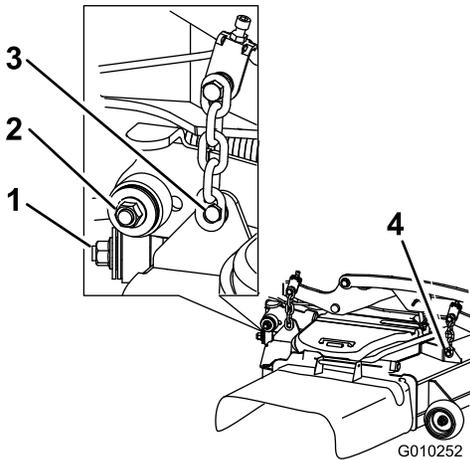

Figure 114
7. Remove and retain the hardware on both sides of the deck as shown in Figure 114.